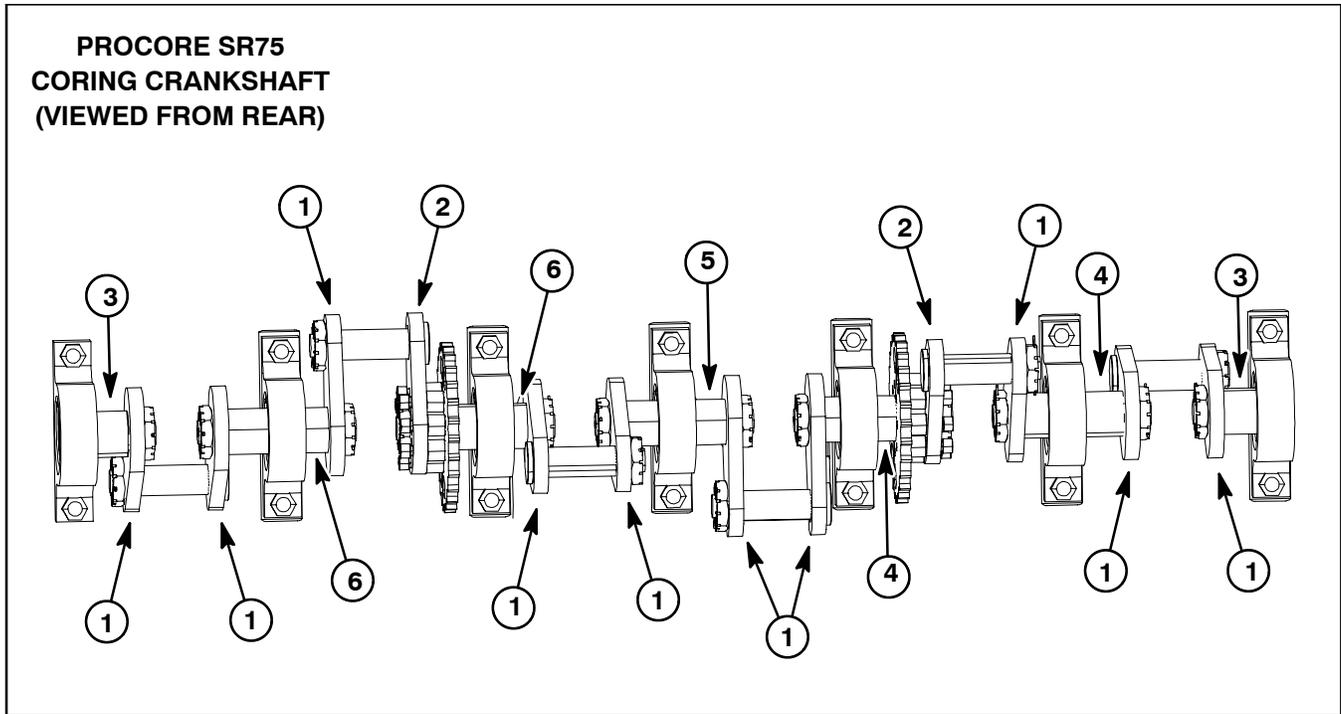

Figure 10
The ProCore SR75 coring crankshaft uses two (2) different crank arms and four (4) different crank shafts. For identification purposes, the crank arms, crank shafts and crankshaft timing are shown in Figure 10. Refer to your Parts Catalog to identify part numbers for crankshaft components.
NOTE: The crank shafts that have two (2) crank arms attached can be identified by engravings on one end of the crank shaft. When assembled, the engraving should be orientated toward the left side of the machine when viewed from the rear. Refer to Coring Crankshaft in this section for crankshaft illustration (Fig. 10).